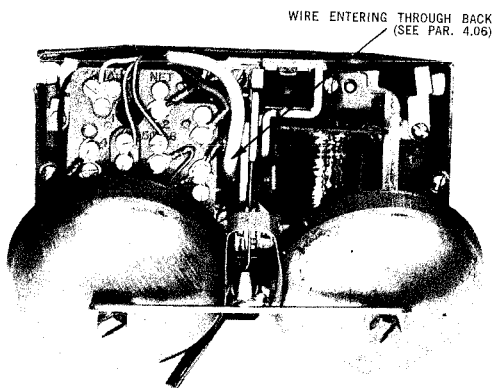
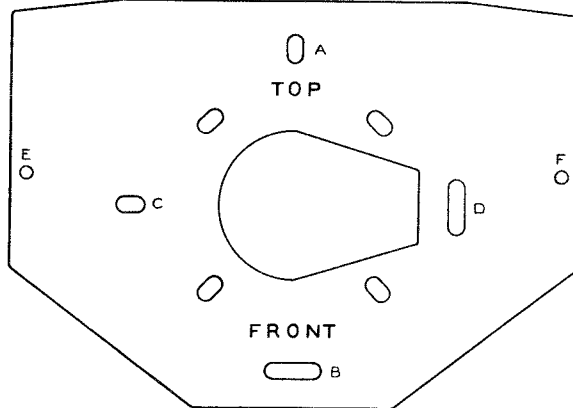

Fig. 3 — Front View of Bell Chime Showing Wire Termination (Entering From Back)
Fig. 8 — QAA1A Bell Chime Adapter
- 4.06** Installation may be made on a commercial outlet and in locations with concealed wiring. Use the QAA1A Bell Chime Adapter. Note that certain holes in the Bell Chime and Adapter are elongated to assist in levelling the bell chime, (See Fig. 8). An additional wire entrance hole is provided to facilitate the installation of the Bell Chime mounted on a commercial outlet and in locations with concealed wiring. (See Figs. 3 and 4).